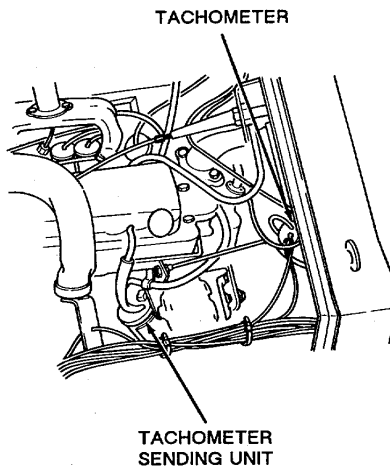

Figure 4-6. Tachometer Sending Unit.
- (11) Remove tachometer sending unit from the engine block (see Figure 4-6).
- (2) Connect lead wires to temperature gage (4).
- (3) Attach temperature probe to engine block.
- (4) Install oil pressure gage (5) to control panel with mounting bracket and nuts.
- (5) Connect wire leads to oil pressure gage(5).
- (6) Connect pressure line to engine and oil pressure gage (5).
- (7) Install ammeter (6) to control panel with mounting bracket and nuts.
- (8) Connect wire leads to ammeter (6).
- (9) Attach tachometer sending unit to engine block (see Figure 4-6).